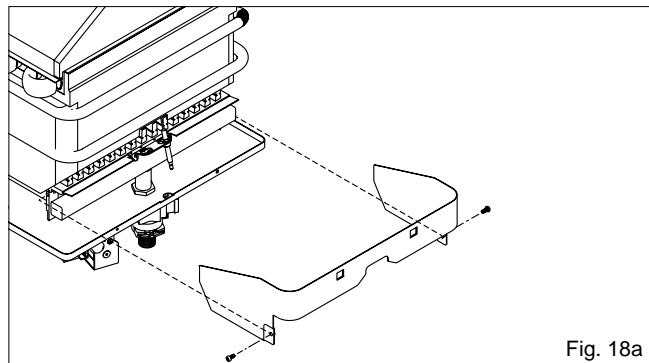

Fig. 18a
6.9 BURNER, INJECTORS AND SPARK/SENSE ELECTRODE (see fig. 18a,b,c)